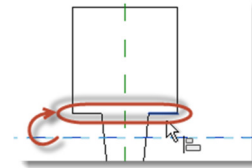

fig. 10
- 9) First use the Move command to select the dwg object, hit Enter, then click the midpoint of the top of the square and move it to a point anywhere on the Wall Face plane (which controls the mullion center line). Now use the Align command to click the Front/Back plane and align it to the bottom lines of the square shape where the fin lines attach. See fig. 10.